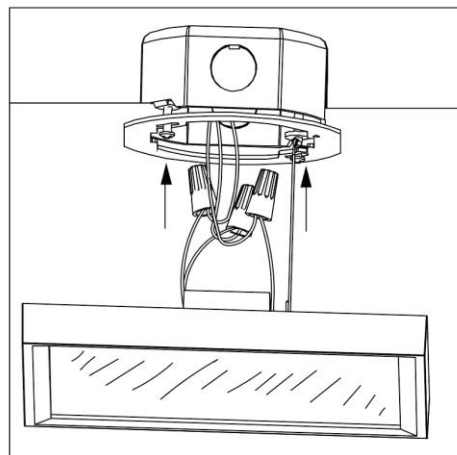

Figure 6
7. **Use Wirenuts** to connect black fixture wire to the black power supply wire and white fixture wire to the white power supply wire, as shown in *Figure 6*.